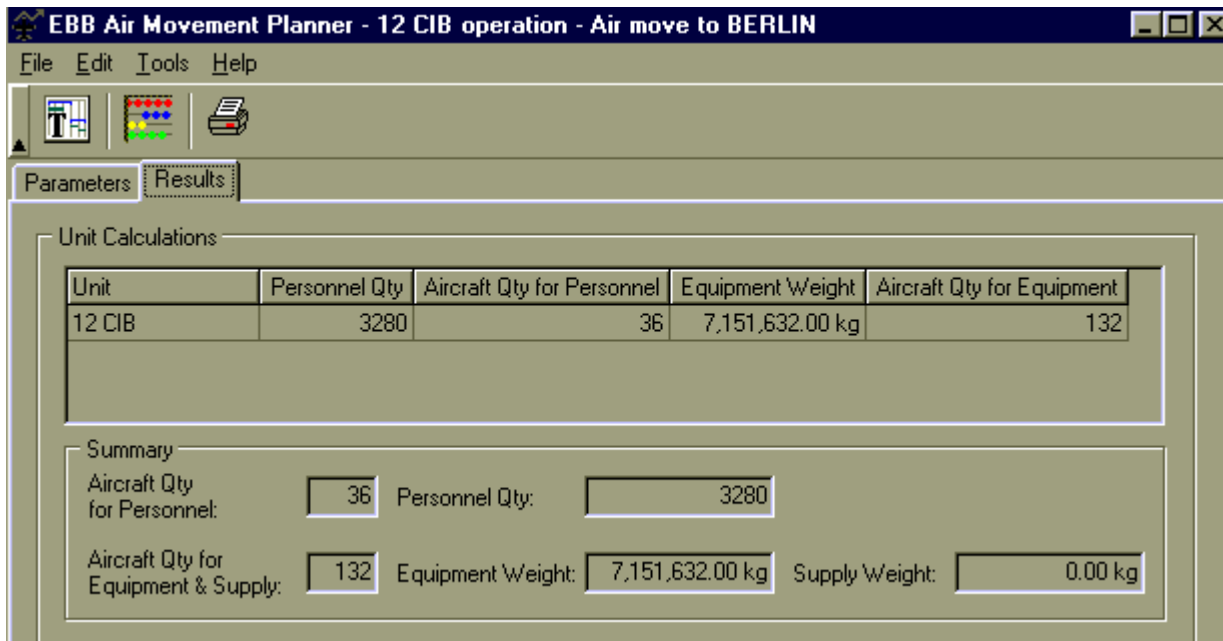

Figure 13: 12 CIB Operation – Air Move to BERLIN
90. Click on the Calculate button or trigger the corresponding function from the Tools menu. Figure 13 displays the content of the Results tab after the calculations.